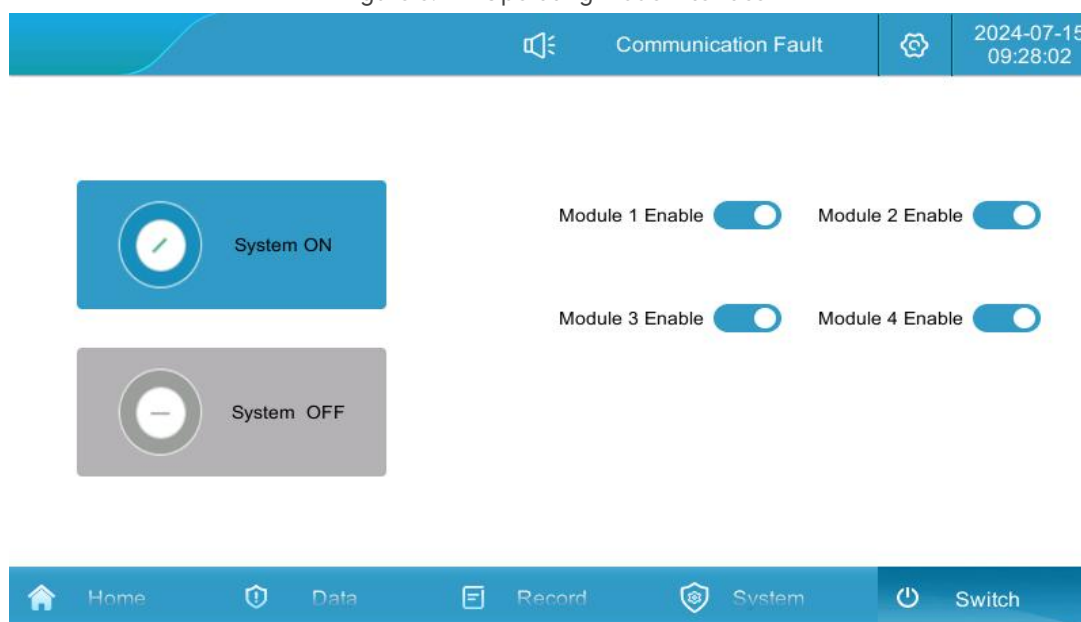

Figure 3.2-2 Power On/Off Interface
5. Converter shutdown: When the converter is running, click "Converter Shutdown", as shown in Figure 3.2-2.